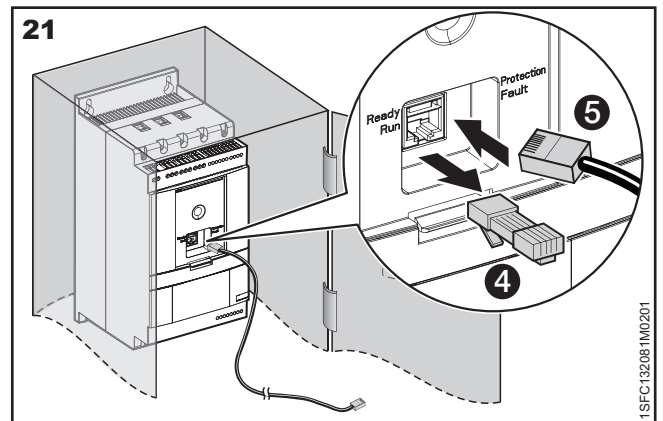

Figure 21: Connect one end of the network cable
3. Remove the RJ45 plug see ④. Connect one end of the network cable to the network port on the front of the softstarter ⑤ in **Figure 21**.